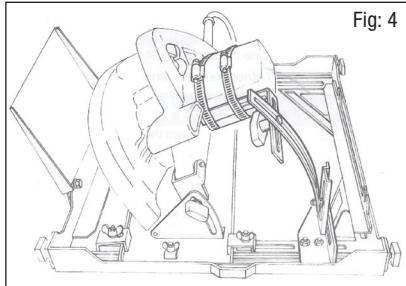
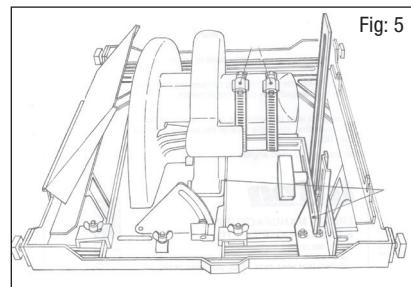

Fig: 4
Fig: 5
- Slip the Band Clamps (D) over the saw motor casing with the wormdrive fasteners on top of the motor, and the screwdriver slots of the wormdrives facing the rear. Do not fully tighten the clamps yet.
- The Saw Motor Bracket (E) has two arms, one with a long slot and one with a short slot. For most saws, fit the bracket with the short slotted arm against the front of the motor casing.
- Position the Rubber Cushion Strip (F) between the motor casing and the bracket arm. Fit the arm in position under the band clamps, and against the rubber strip.
- Position the long slotted arm of the bracket so that it is touching the inside face of the Slotted Strap (C).
- Before fully tightening the clamps, fit the remaining $\frac{1}{4}$ " x $\frac{3}{4}$ " coach bolt through the Slotted Strap (C) and the slot in the Saw Motor Bracket (E), fit the $\frac{3}{4}$ " x $\frac{1}{4}$ " flat washer, and fasten with the T-Knob (T-Knob to the inside).
- Check that the lower edge of the Saw Motor Bracket (E) does not hit the Nyloc Nut (L) of the pivot bolt assembly. You may need to move the Saw Motor Bracket (E) slightly up the motor casing. This bracket does not need to be horizontal and may be angled slightly upwards to provide increased clearance away from the pivot bolt.
- Before fully tightening all the fastenings, check that the saw can be adjusted through its full range in both depth of cut and angle of cut. Note that the Slotted Strap (C) is designed to flex in a curve when the saw is angled for bevel cutting, see Fig 4.
- If the saw can be adjusted smoothly through its full range, loosen the T-Knob and fully tighten the Band Clamps (D). Do not overtighten the band clamps as you could damage the motor casing.
- Also, ensure that the arm of the Saw Motor Bracket (E) which extends forward is parallel to the edge of the saw's base plate, see Fig 5. If it is not parallel, either remove the bracket and slightly bend the bracket in a vice, or use shim packing on one side between the rubber cushion strip and the bracket.
- Re-tighten the T-Knob (G), ensuring that the Slotted Strap (C) remains in the vertical position, and that the extended arm of the Saw Motor Bracket (E) does not flex or distort as you tighten the knob.
- Finally, tighten the nuts fastening the Base Bracket (A) to the slide chassis.